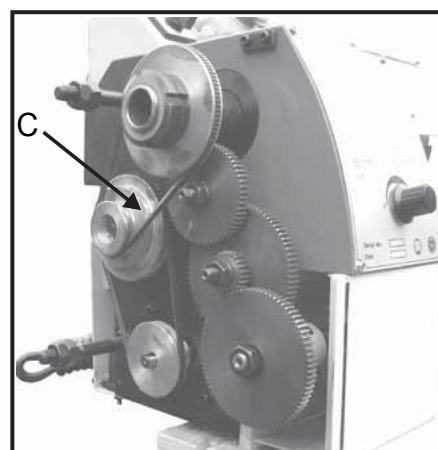

Fig. 16
2. Adjust the V-belt (C, Fig.16) corresponding position.